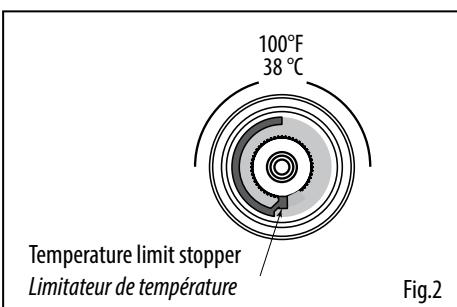

Fig.2
Before installing the trim (6), thread on the cylinders (1 & 2) to the thermo cartridge body and the diverter valve (Fig.1). Then, insert the temperature limit stopper (3) into position as shown (Fig.2).